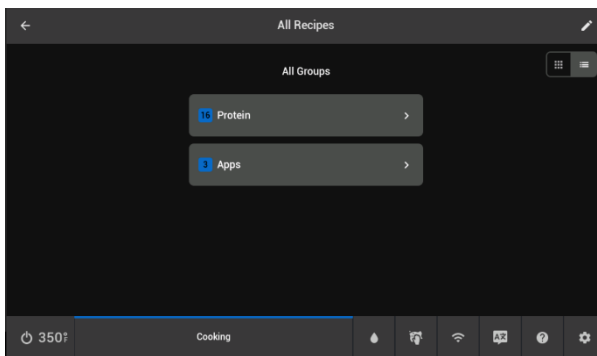
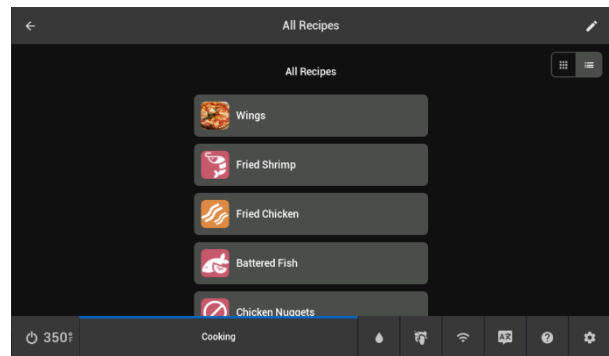

Figure 7 - All Group List View
Figure 8 - All Recipes List View
- Click  in the upper right corner, to get a list view of **All Groups Figure 7** or **All Recipes list view Figure 8**